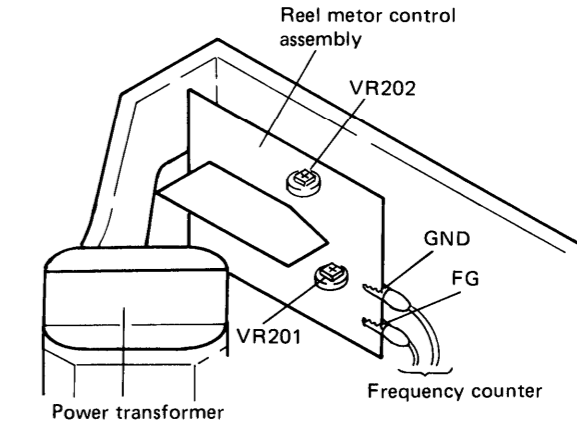

Fig. 4-5 FF/REW Rotating speed adjustment
- Connect the frequency counter between FG of reel motor control assembly and GND (Fig. 4-5).
- Adjust VR201 so that the take-up torque is 45 ± 5 g-cm (Fig. 4-5).